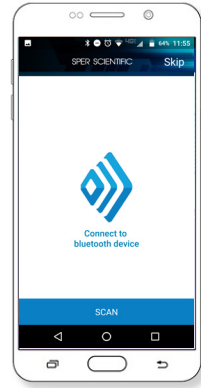

Figure 1
5. Open the application on the phone. If the meter is not yet paired, the application will automatically search for a meter. To connect faster, press **SCAN**. See *Figure 1*.